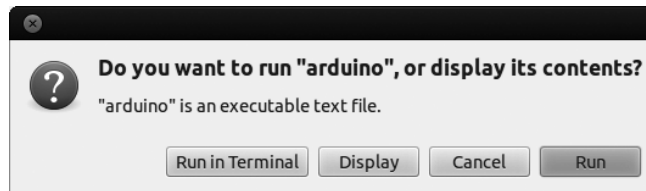
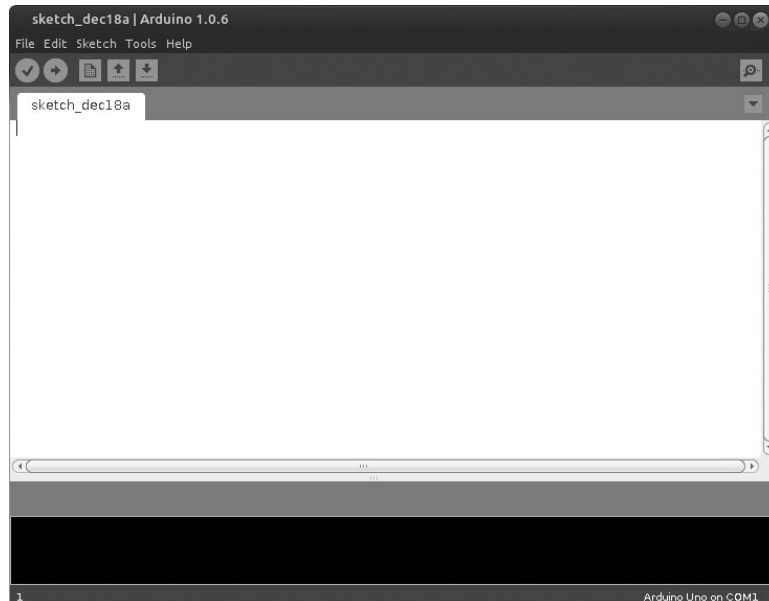

Figure 1-26: Granting permission to run the IDE
Figure 1-27: The IDE in Ubuntu
2. If the dialog shown in Figure 1-26 appears, click **Run**, and you will be presented with the IDE, as shown in Figure 1-27.